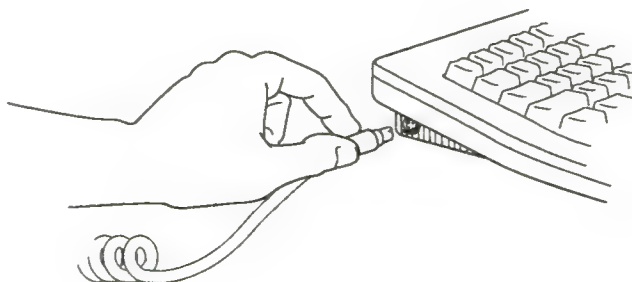

Figure 30. Connecting the keyboard cable to the keyboard
16. Plug one end of the keyboard cable into the left port on the keyboard, as shown in Figure 30.